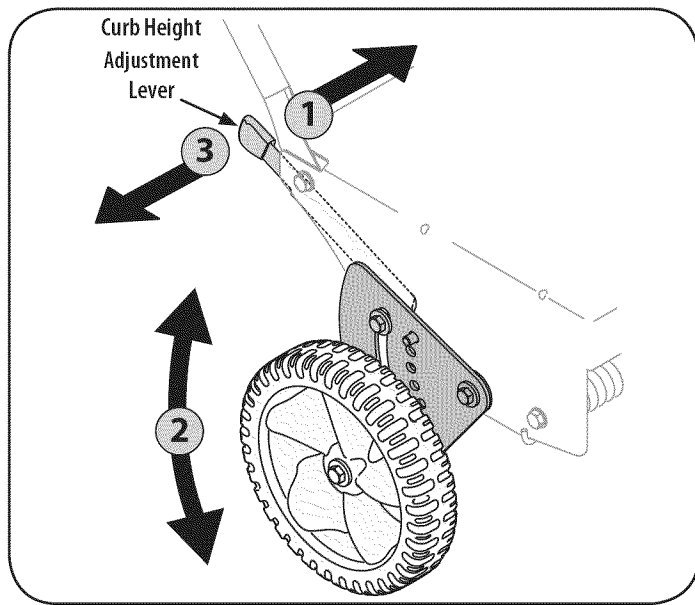

Figure 11
1. Lower the right rear wheel by moving the curb height adjustment lever slightly to the left. See Figure 11.